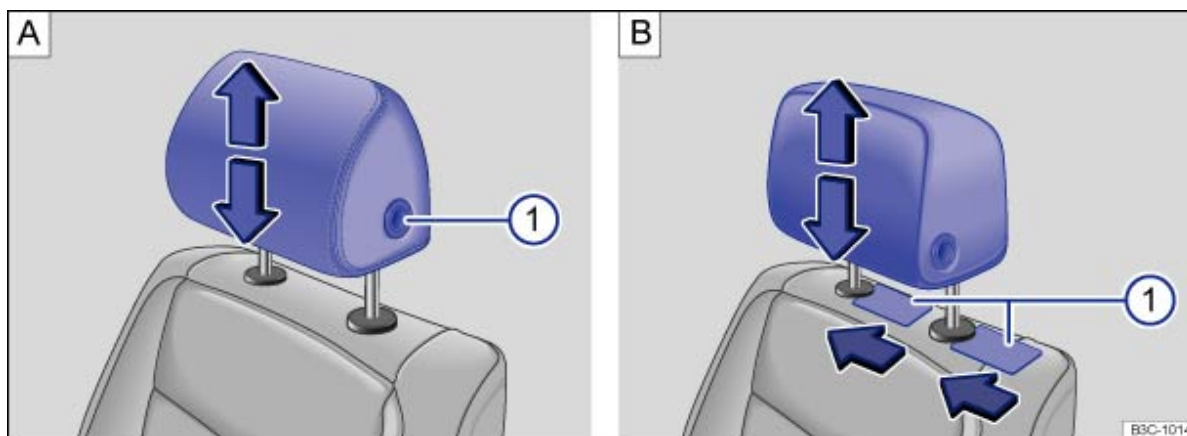

Fig. 47 Removing front head restraints: for vehicles without (A) and with (B) with longitudinally adjustable head restraints
- Properly press and hold the button → Fig. 47 A ① and pull the head restraint out fully.
- Insert a flat object, e.g. a plastic card, each between the seat cover and the cover of the rods holding the head restraint and release the rods simultaneously using slight force → Fig. 47 B ①.
- Properly press and hold the button → Fig. 47 A ① and push the head restraint downwards.